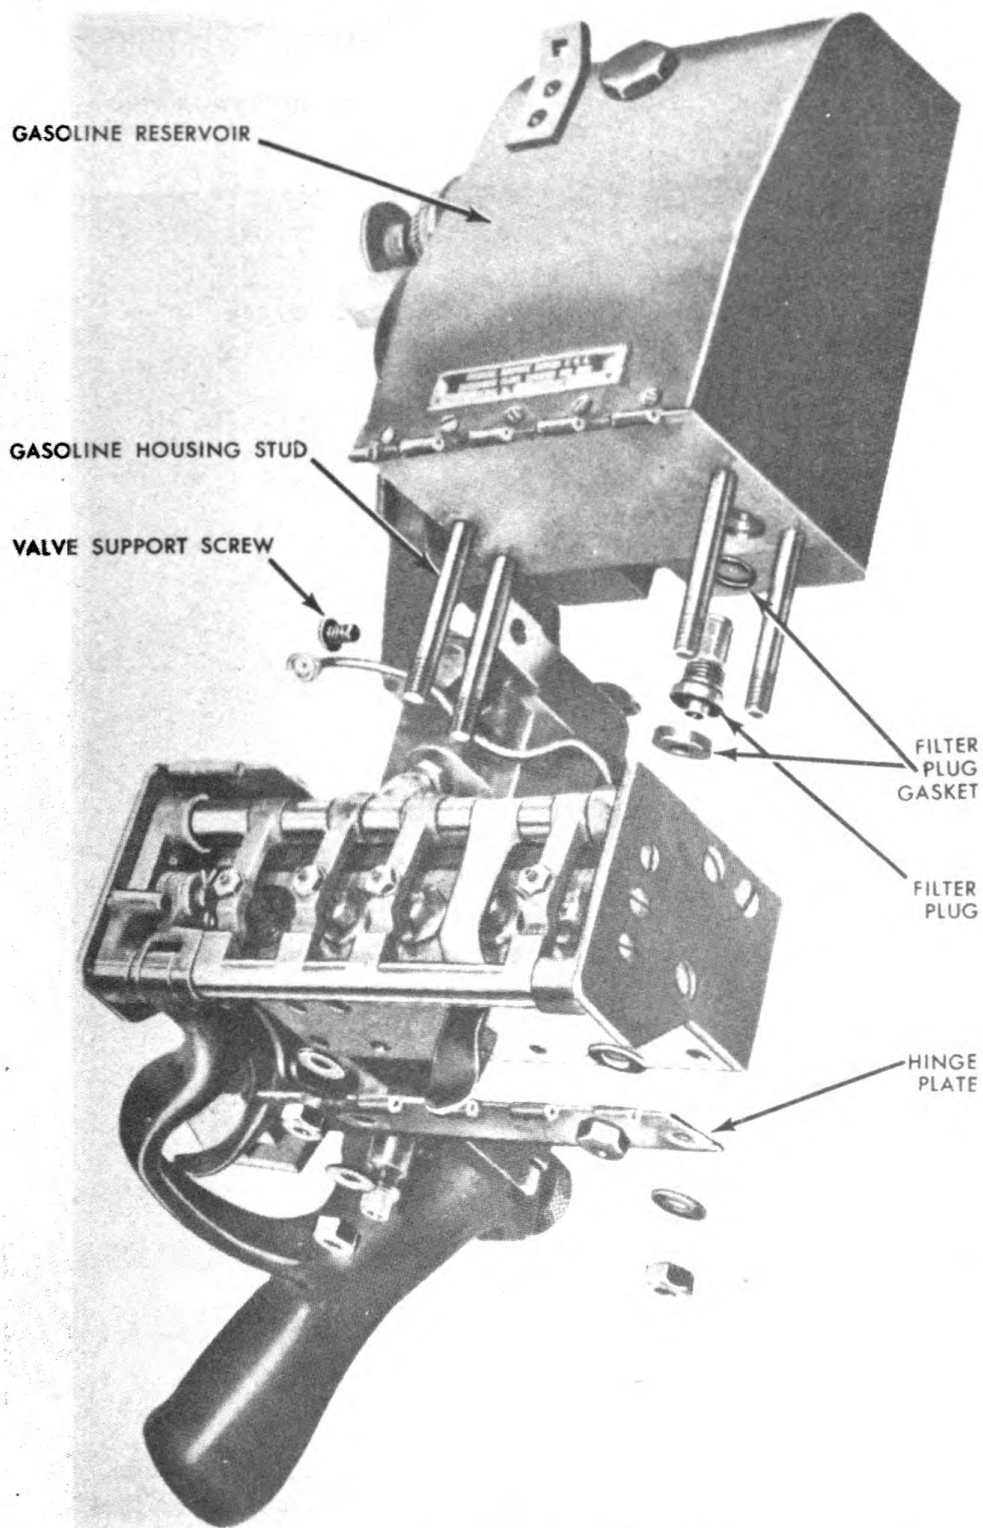
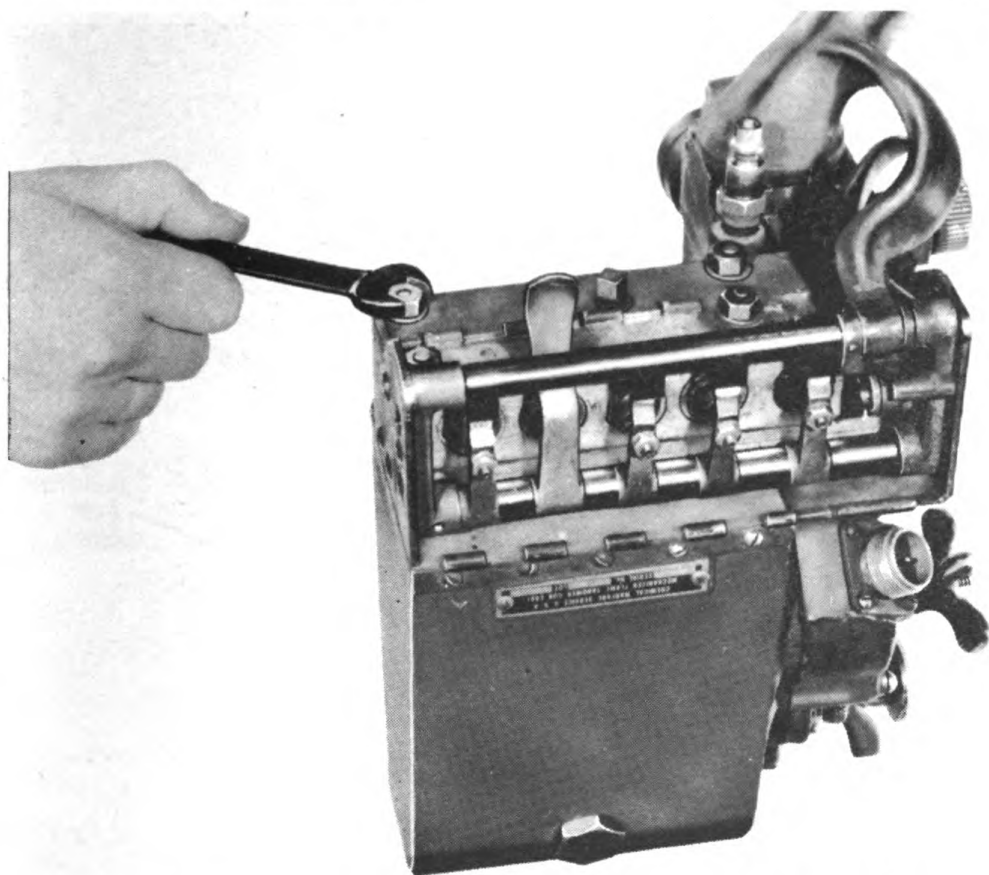

Fig. 85. Gasoline housing assembly separated from remainder of gun control assembly.
Fig. 89. Unscrewing stud nuts from gasoline housing studs.
94. GASOLINE HOUSING ASSEMBLY (fig. 85).
(3) Pressure gage tube. This tube exits above the pump and connects to the pressure gage.
(4) Gasoline filter plug and filter (fig. 85). At the bottom of the gasoline housing assembly is the gasoline outlet into which the filter plug is screwed. The housing filter, which serves to remove foreign matter as gasoline passes from the reservoir, projects into the reservoir and is joined to the filter plug. A gasket assists in making a seal
(3) Remove the four stud nuts and washers from studs on bottom of valve block (fig. 89). The bottom hinge plate is also removed.
(4) Remove the screw holding discharge valve housing to gasoline reservoir.
(5) Remove coil cap (par. 92b) and disconnect the three studs which hold the cap in place.
(6) Lift off gasoline reservoir (fig. 85). If the reservoir does not lift off easily, drive it off by means of a hammer, with a block of wood interposed between it and the gasoline reservoir.
d. Removal and replacement of pump. (1) To remove pump, unscrew it from the housing with a wrench. The entire pump assembly can now be removed.
(2) To replace the pump, reverse procedure for removal.
e. Removal and replacement of filter plug and filter (fig. 85). (1) To remove the filter plug and filter from the gasoline reservoir, remove housing assembly from control assembly, and unscrew plug from reservoir with the special spanner wrench.
(2) To replace filter plug and filter, reverse procedure given for removal. Make certain that the gasket is in place between the plug and the gasoline reservoir (fig. 85). Also be sure that the rubber gasket is in place between the plug and the seat on the distributor plate.
f. Maintenance. (1) Pump. Do not disassemble the pump. If it does not function properly, replace defective parts or entire pump.